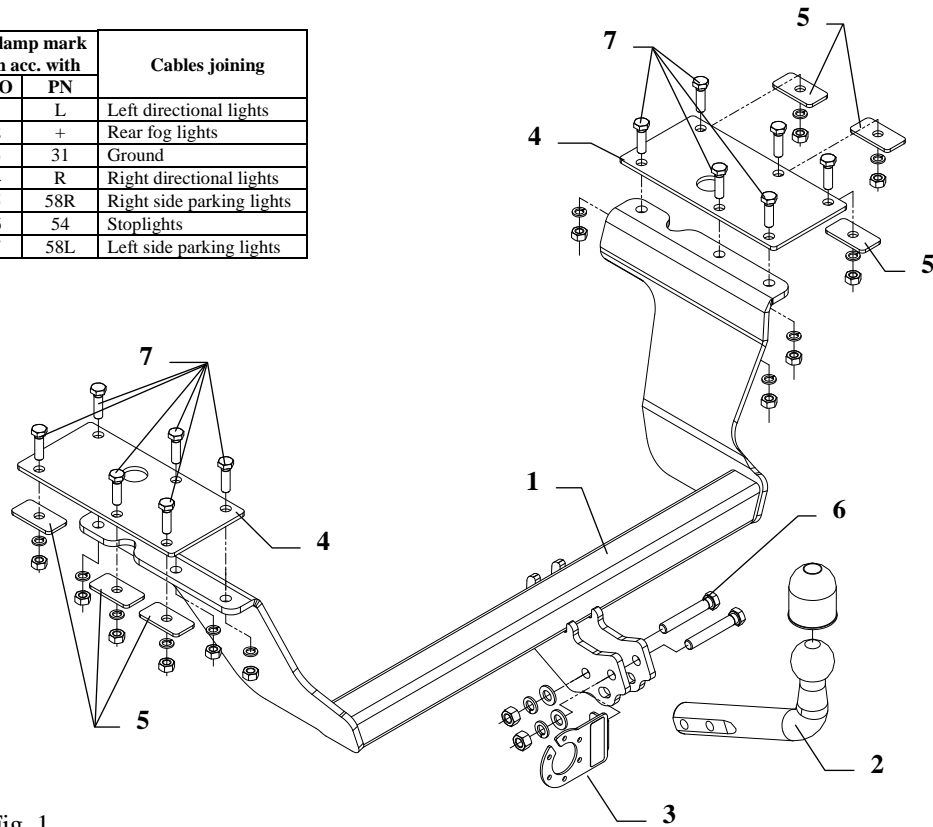

Fig. 1
3. Through ready made holes put bolts M10x35mm (pos. 7).
4. From the bottom of the car, apply (on protruding bolts) the main bar of the towbar (pos. 1) and fix as showed on the fig. 1.
6. Fix tow-ball (pos. 2) and socket plate (pos. 3) by bolts M12x75mm (pos. 6) from accessories.